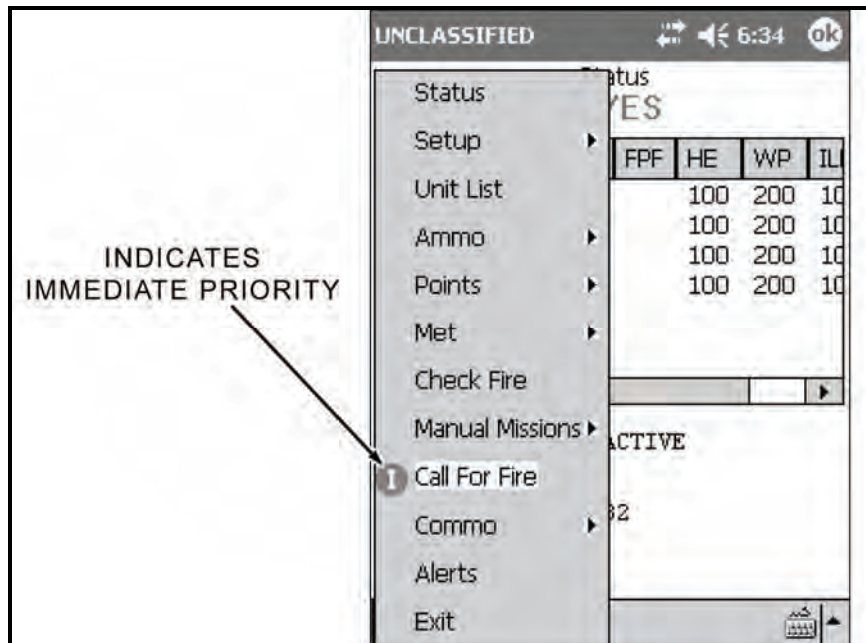

Figure 18-22. Call for fire menu selection.
- (1) Select Menu.
- (2) Select Call For Fire (Figure 18-22).